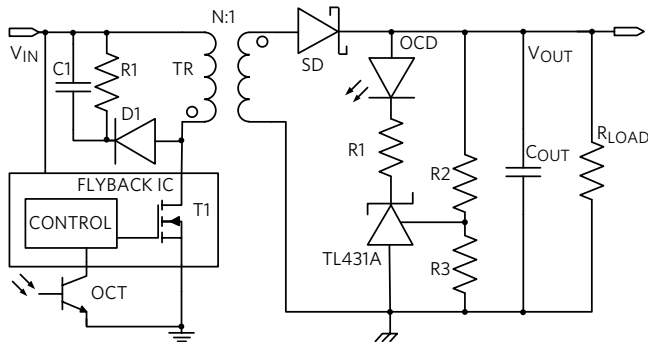

Figure 30. Flyback with Optocoupler
Using galvanically isolated transformers with PWM control is the most common architecture for an isolated DC-DC power supply. The flyback converter is the classic architecture that produces an isolated output. **Figure 30** shows the traditional implementation. During the "ON" time of the transistor T1, the voltage across the primary winding is positive (equal to V_{IN}) and the voltage across the secondary winding is negative. Consequently, the Schottky diode (SD) prevents energy from passing to the output and the energy is stored in the transformer. During the "OFF" time of T1, the primary winding inverts its voltage, which allows the energy to be released to the output. The control loop is quite complex, often requiring a shunt regulator (TL431A) on the secondary to regulate the voltage at the output. An optocoupler and error amplifier on the secondary-side of the transformer provide the isolated feedback signal needed to close the PWM control loop to the primary side.